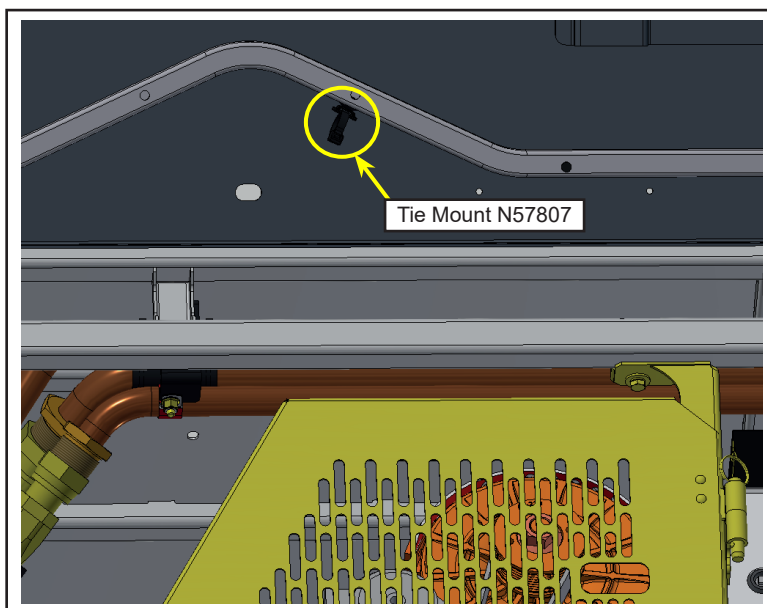

Figure 13 - Installation of Tie Mount
- 1.15. Drill an 8.75mm-9.25mm(0.343"-0.363") hole, Inline with the existing hole on the adjacent surface and Install the tie mount P/N N57807 (see figure 13).